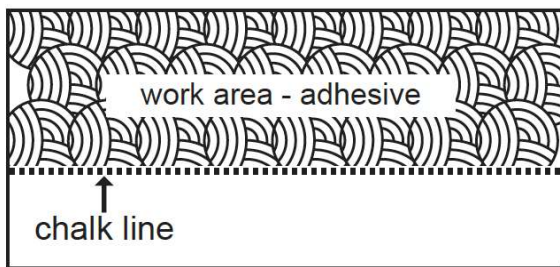

Figure 10A
STEP 4: Installing the Floor (Figure 10A-10D)